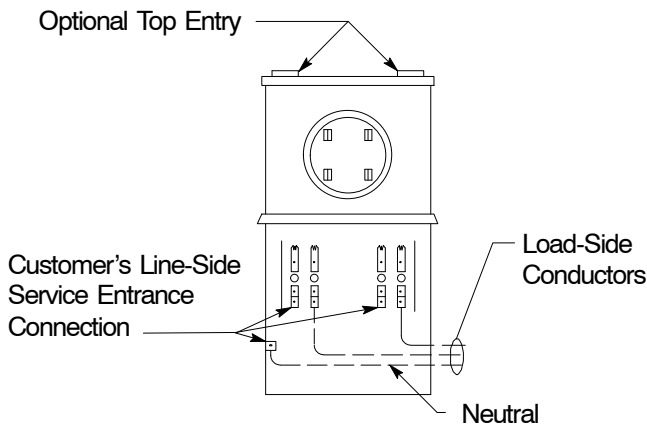

Figure 9
4. Figure 9 below shows a meter socket with test bypass facilities used for non-residential single-phase service, 120/240 V maximum of 7-1/2 hp. All three-phase services require bypass facilities.